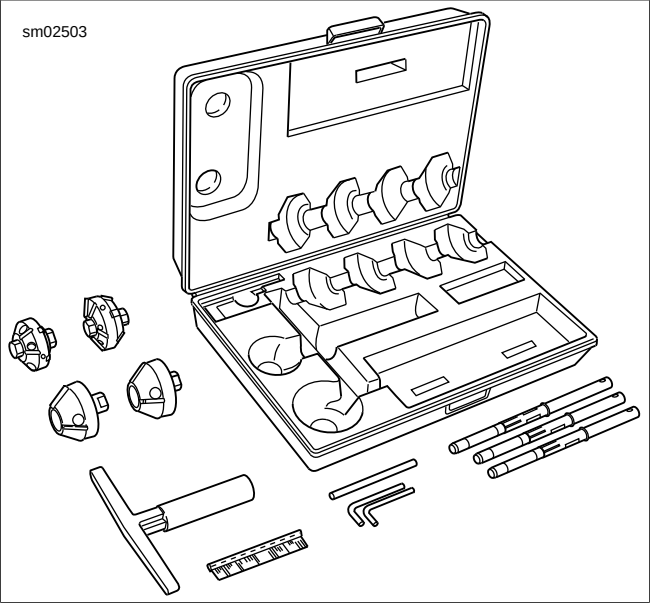

Figure 3-53. Neway Valve Seat Cutter Set
10. See Figure 3-53. Obtain the NEWAY VALVE SEAT CUTTER SET (Part No. HD-35758-C). Choose the cutter pilot that fits properly into the valve guide hole. Securely seat the pilot by pushing down and turning using the installation tool supplied in the tool set.